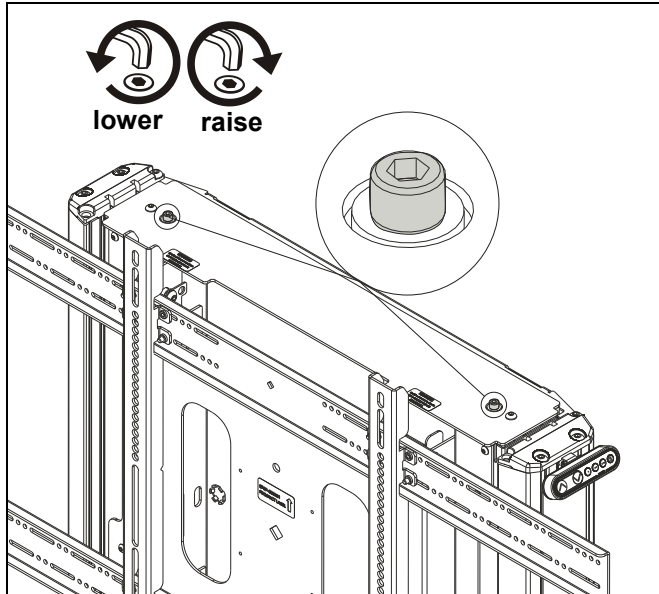

Figure 21
1. Use 3/16" hex key to adjust leveling adjustment screws on top of cart. (See Figure 21)